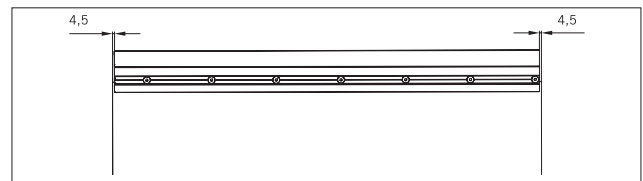

Fig. 9 Aligning the door rail
- Center the door rails so there is a distance of 4.5 mm from the glass edge on both sides (Fig. 9).